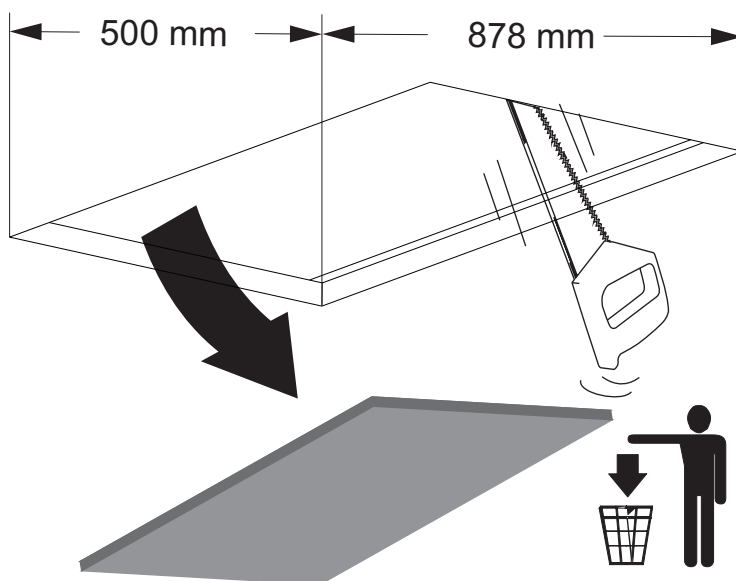

Fig. 9
- ➔ Cut the surface where the appliance will be mounted in align with the specified measurements in the technical illustration (Fig. 9).